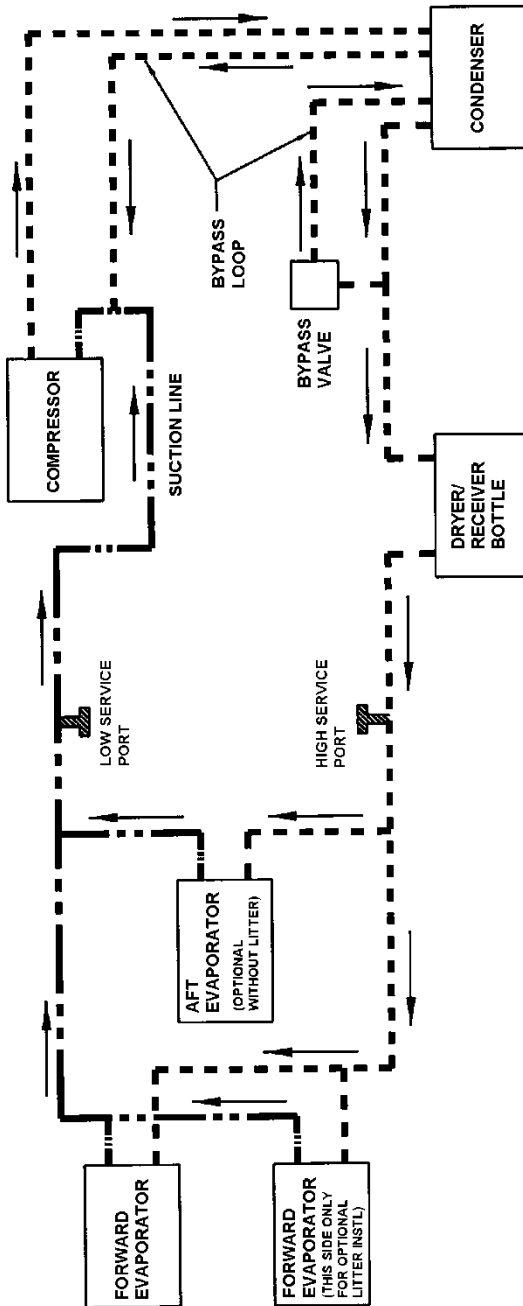

Figure 5-7-1. Air Conditioning System Schematic
1. A simplified plumbing schematic of the air conditioning system is provided in Figure 5-7-1. This schematic shows all of the components and the direction of the refrigerant flow through the system. It also depicts the high pressure and low pressure service ports.